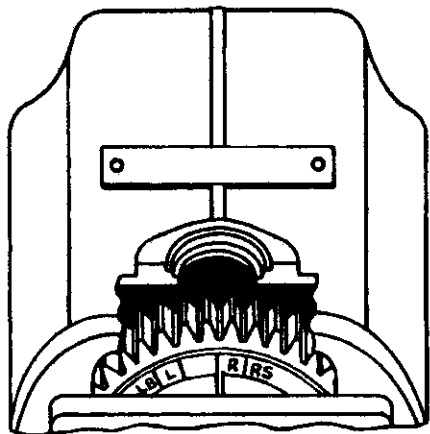

Figure 4. Alignment of Timing Marks on Distributor Gear —
b. Six cylinder, single breaker types — The timing rib on the distributor block MUST lie between the "L" and "LB" or the "R" and "RB" marks on the gear, and should be nearer to the "L" or "R" mark, depending on magneto rotation. See figure 4.